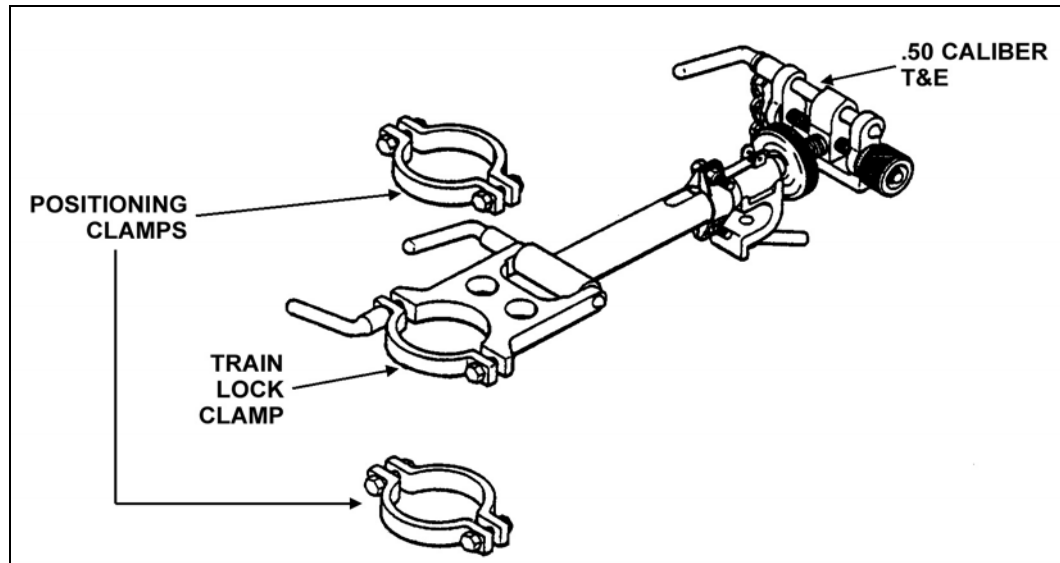

Figure 3-15. Train and elevating assembly.
(3) ***Train and Elevating Assembly.*** This assembly secures the MK 64 gun cradle to the M4 pedestal or HMMWV weapon platform pedestal and allows directional adjustments. The lower end of the train and elevating assembly is attached to the pedestal by a train lock clamp. The clamp is released or locked in position by a train lock handle. Two positioning clamps are supplied to prevent vertical movement of the train lock clamp on the M4 pedestal. When used on the HMMWV weapon platform pedestal, *only one clamp is needed above the train lock clamp*. The upper end of the train and elevating assembly is a standard caliber .50 T&E mechanism and it is attached to the lower rear holes in the M4 cradle by a retaining pin (Figure 3-15).